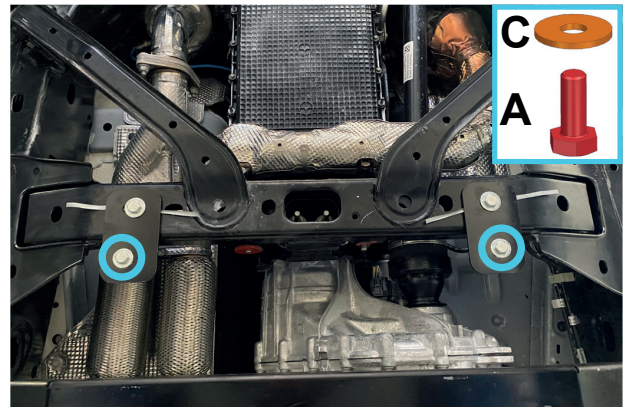

Fig. 10
7. Loosely install supplied M10x35 bolts (item A) and M10 washers (item C) to brackets (item E) as shown in fig.10.